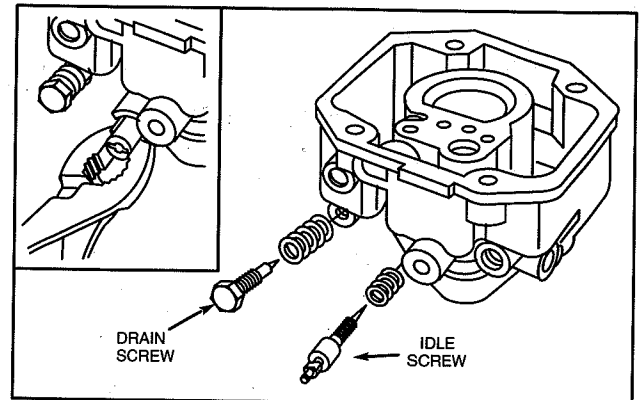

Fig. 102 - Remove Idle Mixture Screw
8. Remove idle mixture screw and spring, Fig. 102.